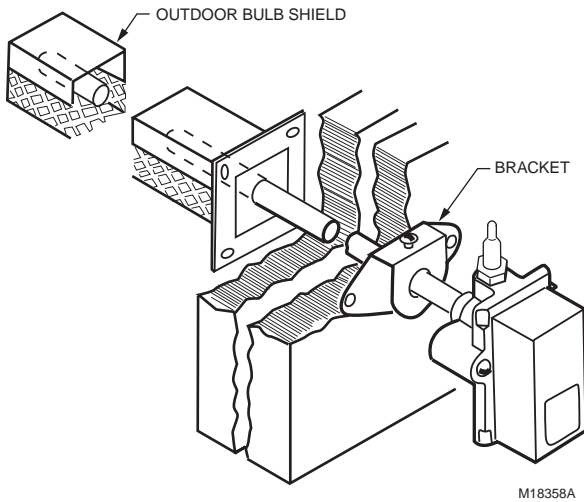

Fig. 4. Outdoor bulb shield and bracket for through-the-wall-mounted LP914A.
3. Outdoor Bulb Shield 311085-00107—through-the-wall-mounted LP914A (Fig. 4)